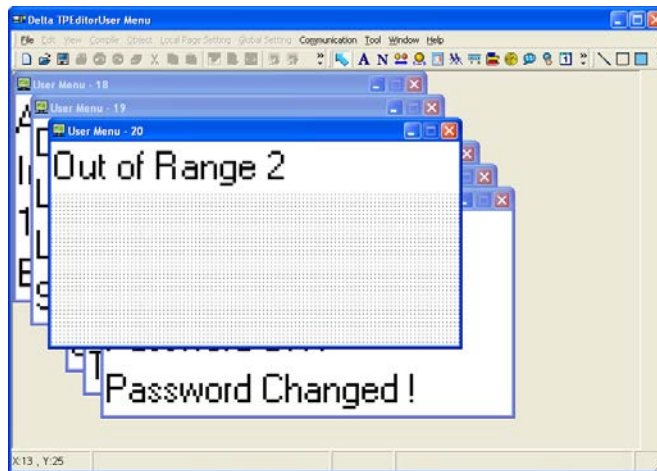

Figure 3-4 **User Menu Setting**
- (1) After users point to **User Menu Setting** on the **File** menu, they can click **TP-02**, **TP-04**, **TP-05**, or **TP-08** on the menu which appears. If the users click **TP-04**, 21 user menus will appear, as shown in Figure 3-4.